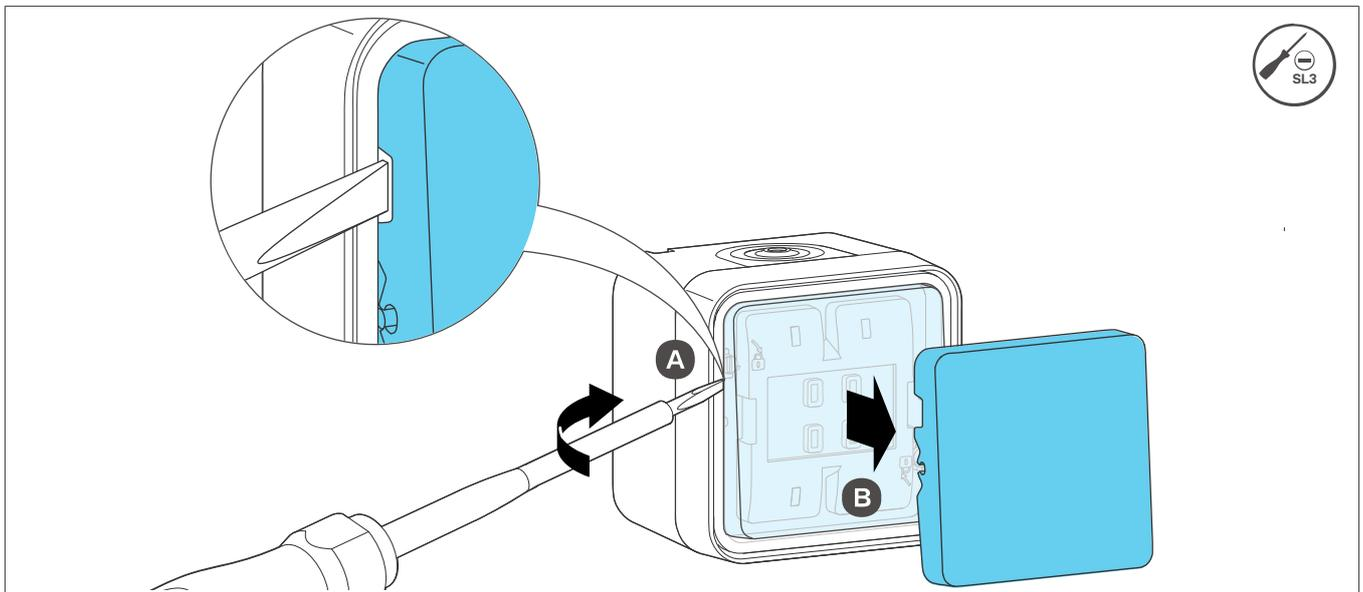

Fig. 2: Remove the rocker
- 1 Remove the rocker (1) on the notch (A) from the surface-mounted device using a screwdriver (B) (Fig. 2).